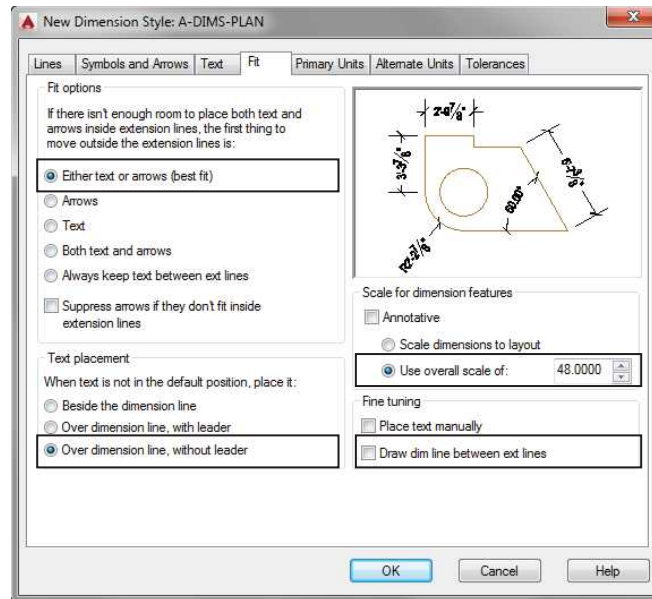

FIGURE 12.8: The new settings in the Fit tab
9. Click the Fit tab in the New Dimension Style dialog box, and change the following parameters to match Figure 12.8:
- Scale For Dimension Features, Use Overall Scale Of: 48 (50)